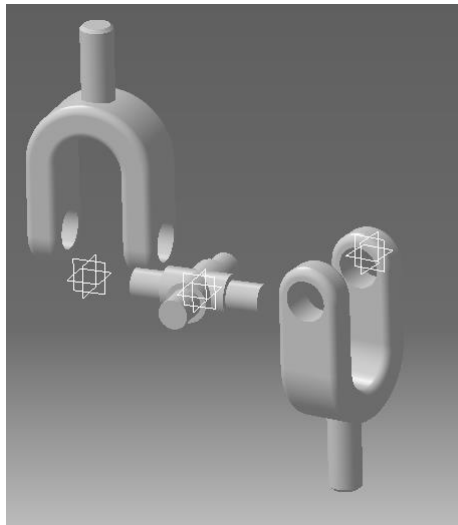

Figure 4.2
- 1.5 Repeat steps 1.4, but instead of opening the file “Top U-Joint” open the file “Bottom U-Joint”. Your screen should look similar to figure 4.2.